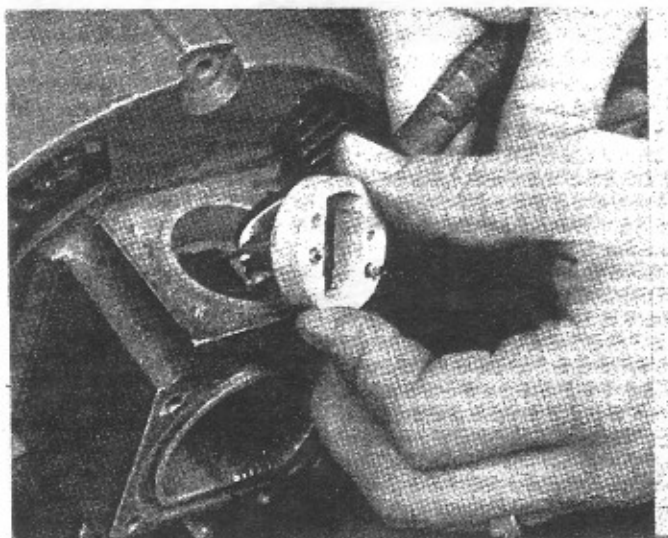

Figure 18
- 2.4 Remove two 6-32 round head screws and pull out brush holder adapter, and cut leads connected to it. Fig. 18.